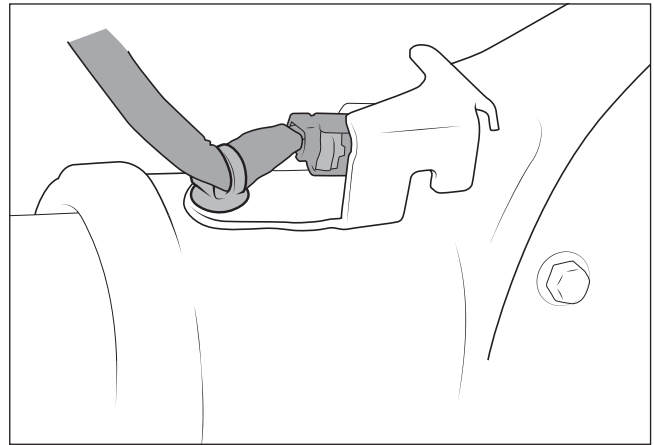

Figure 6
9. POWER WAGON ONLY – Disconnect the front locker plug and remove the zip tie from the axle (fig. 6).